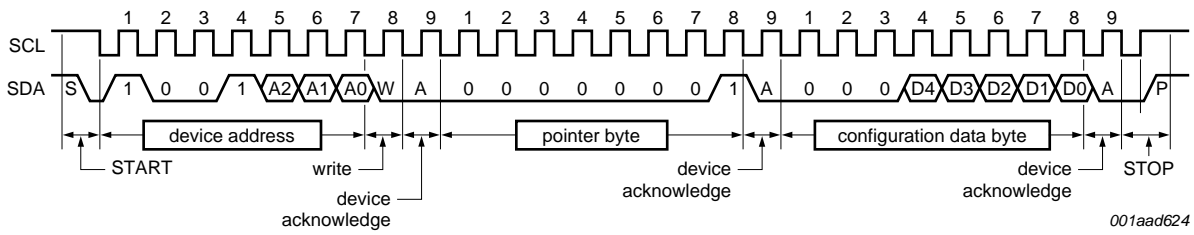
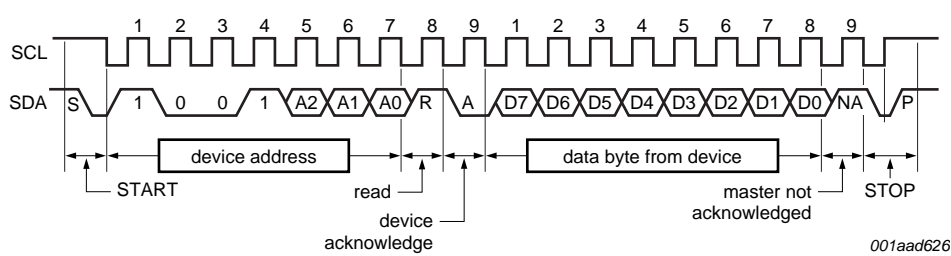
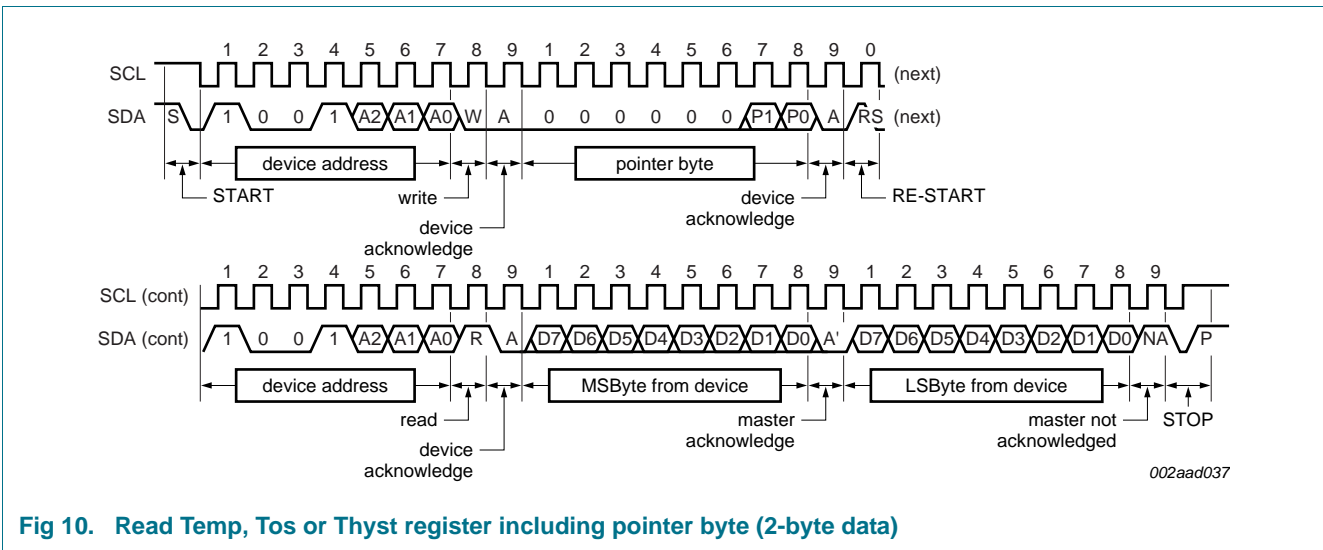
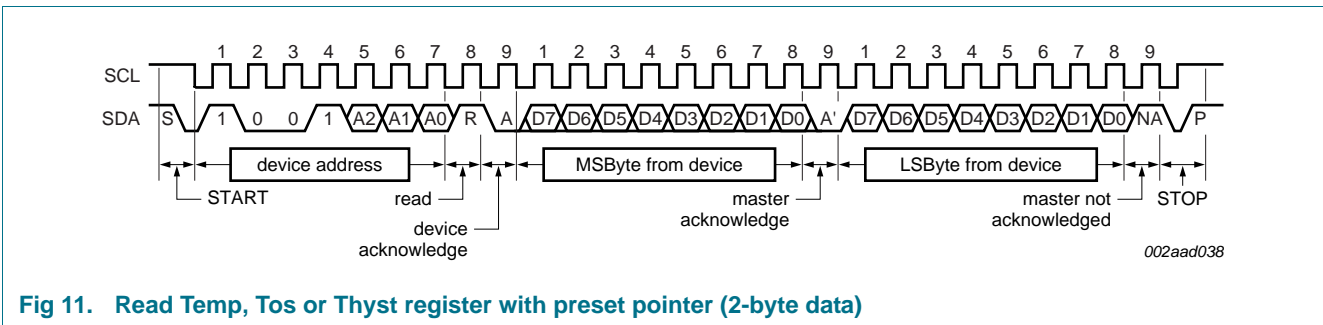

Fig 6. Write configuration register (1-byte data)
Fig 8. Read configuration or temp register with preset pointer (1-byte data)
Fig 10. Read Temp, Tos or Thyst register including pointer byte (2-byte data)
Fig 11. Read Temp, Tos or Thyst register with preset pointer (2-byte data)
The communication between the host and the device must strictly follow the rules as defined by the I²C-bus management. The protocols for device register read/write operations are illustrated in Figure 6 to Figure 11 together with the following definitions:
14. For best temperature accuracy both temperature bytes should be read as shown in Figure 10 and Figure 11, but for a quick less accurate check/reduce bus transmission then only one byte, the MSByte, needs to be read as shown in Figure 8.